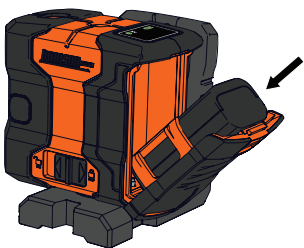

Figure 5
(Figure 5)
5. Install the Li-ion battery pack into the unit as described earlier. (Figure 5 - Figure 6)